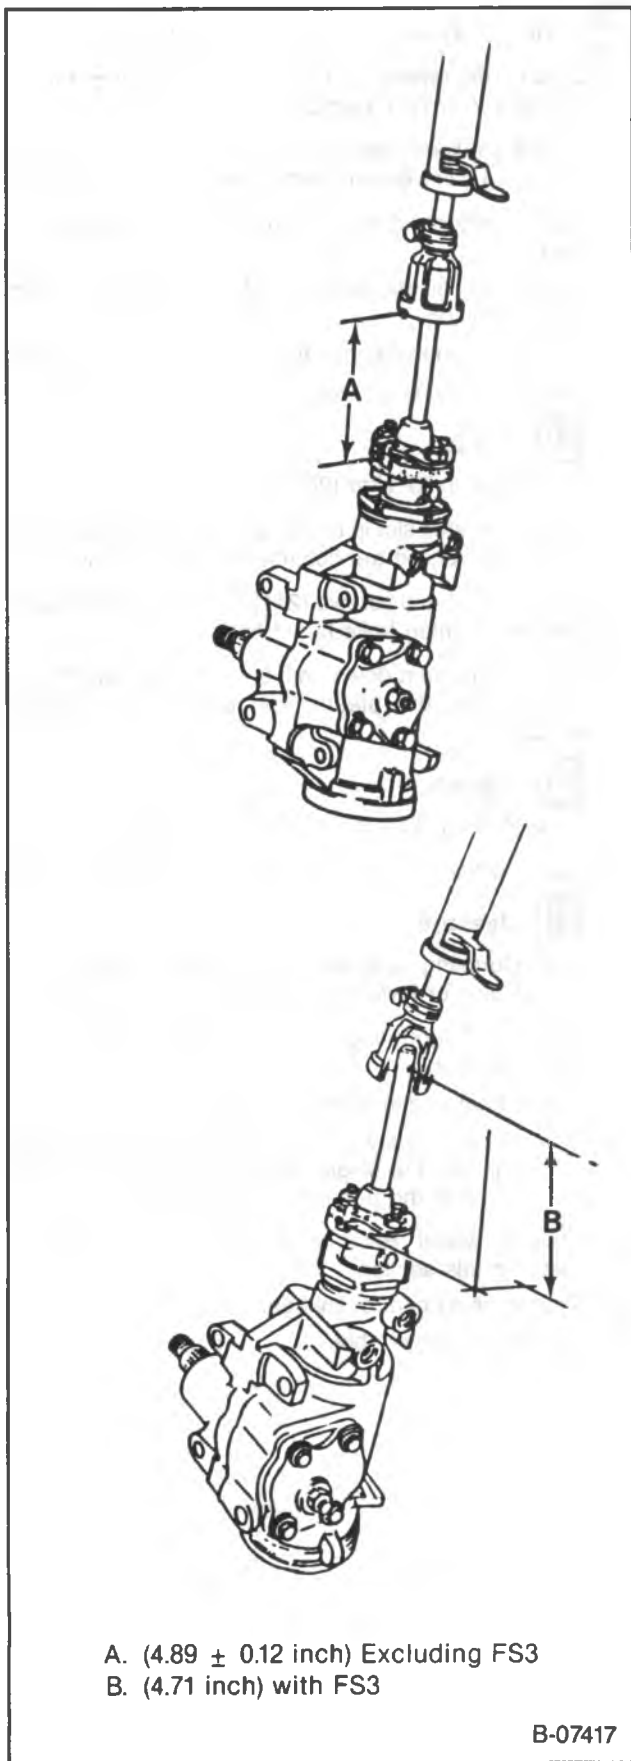

Figure 42 — Coupling Assembly Measurement
- Coupling assembly dimensions (figure 42). Raise or lower steering column if necessary.